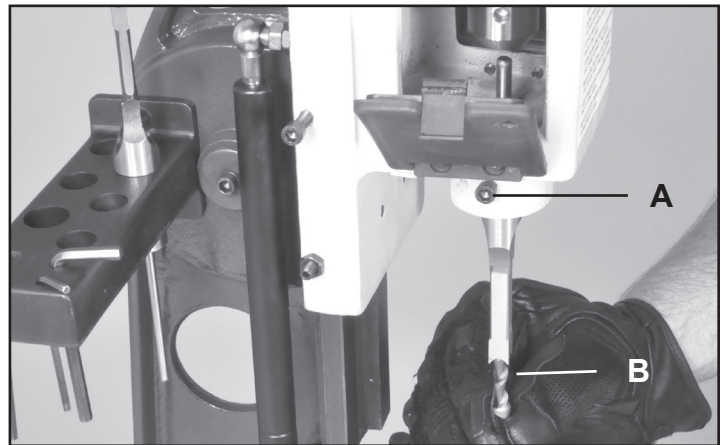

FIG. 10
5. Using the chuck key, tighten the drill bit in place making sure that 1/16" to 3/16" of the drill bit point is lower than the chisel point. This distance will depend on wood hardness and mortising depth requirements. FIG. 10, B.